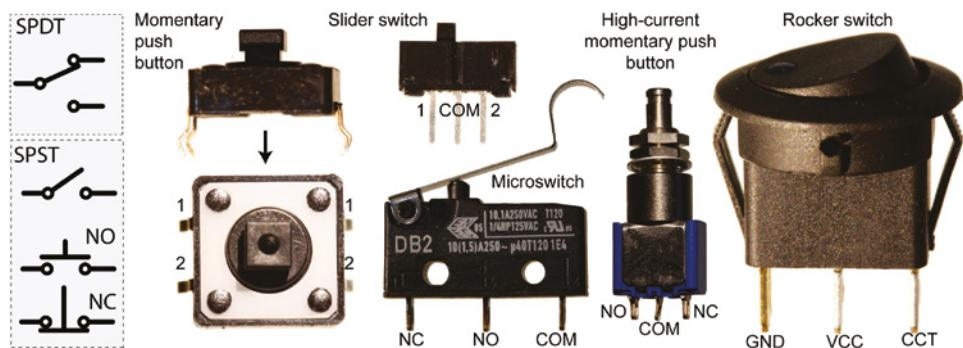

Figure 4-20: Various switches and configurations
Other components with which you are likely to need to work with are switches and buttons. They come in many different forms: toggle, push button, selector, proximity, joystick, reed, pressure, temperature, etc. However, they all work under the same binary principles of either interrupting the flow of current (open) or enabling the flow of current (closed). Figure 4-20 illustrates several different common switch types and outlines their general connectivity.
Momentary push button switches (SPST—single pole, single throw) like the one illustrated in Figure 4-20 are either normally open (NO) or normally closed (NC). NO means you have to activate the switch to allow current to flow, whereas NC means that when you activate the button, current does not flow. For the particular push button illustrated, both pins 1 and both pins 2 are always connected, and for the duration of time you press the button, all four pins are connected together. Looking at slider switches (SPDT—single pole, double throw), the common connection (COM) is connected to either 1 or 2 depending on the slider position. In the case of microswitches and the high-current push button, the COM pin is connected to NC if the switch is pressed and is connected to NO if the switch is depressed. Finally, the rocker switch illustrated often has an LED that lights when the switch is closed, connecting the power (VCC) leg to the circuit (CCT) leg.